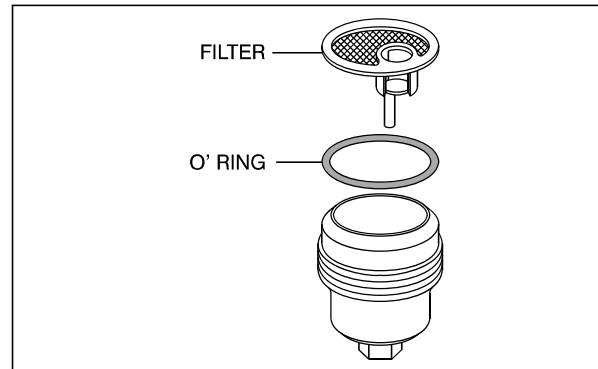

Fig. 4.7
- Sediments filtered by the filter inside the fuel cock sediment bowl will get deposited in the bowl. Therefore the bowl and the filter inside the bowl must be removed and cleaned periodically to avoid dust entry into the carburettor assembly. (Fig. 4.7)
Replace the 'O' ring with new one while reassembling. (Fig. 4.7)